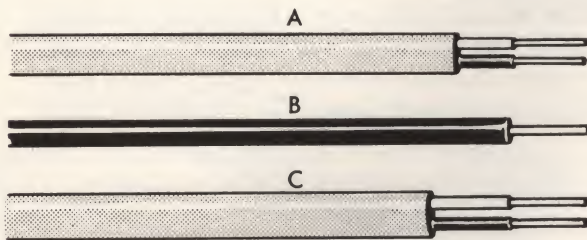

FIG. 86—UNDERGROUND WIRING MATERIALS
**LEAD-COVERED CABLE.** Fig. 86-A shows lead-covered cable, consisting of rubber-covered wires encased in a continuous layer of lead which keeps out moisture. When cable will be subjected to possible damage by passing trucks, farm animals, etc., it should be inserted in a metal conduit or plastic pipe. Make bends in conduit gradual to permit easy insertion of cable. Use one-inch conduit for either a two-wire cable (size 10, 12, or 14 gauge wires), or for 3-wire cable (size 14). Bury conduit below frost line (usually 18 to 24 inches) to prevent condensation. *Do not bury steel conduit in cinders*; the metal will deteriorate within a short time.
**TRENCH WIRE.** Fig. 86-B shows trench wire—a single copper conductor covered with a moisture-resistant, Neoprene outer jacket. Keep individual wires close together (use continuous
**PLASTIC CABLE.** Fig. 86-C illustrates plastic covered cable, which is tough, versatile, and insulated and jacketed with thermoplastic. It is designed especially for use underground, and may normally be buried without using conduit. This type of cable is highly resistant to mechanical damage, acids, moisture, rot and corrosion. It is excellent for underground use and for branch circuit installations. When protection is required, it may be enclosed in conduit, as previously explained. Provide fuse or circuit breaker protection, as explained under "Installations Within the Building" on Page 24. Follow the same procedure as outlined for trench wire.